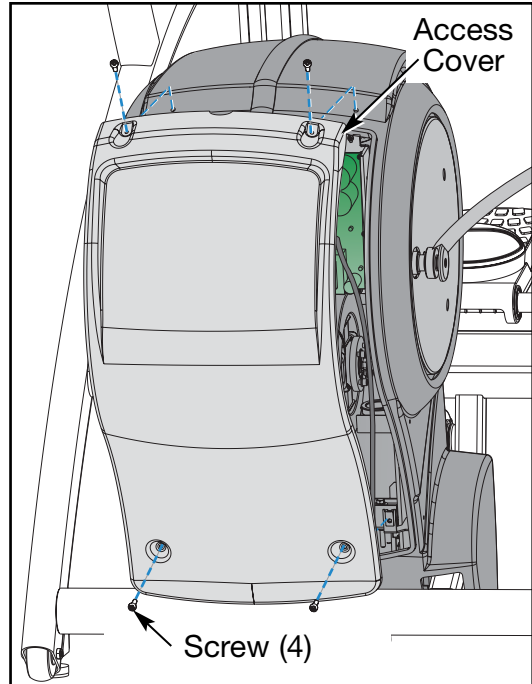

Figure 2
- A.** Using a Phillips head screwdriver, remove the four screws securing the access cover in place. See Figure 2.